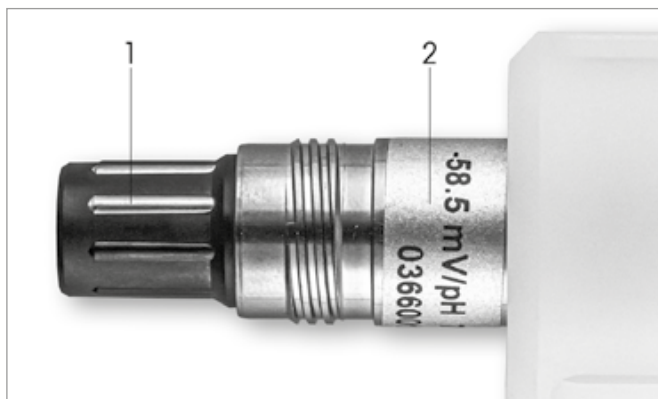

Fig. 1: InSUS pH sensor (example)
3.5 Locate the Slope and Zero Point (Offset) values found on the sensor label (Fig. 1) or on the sensor's Quality Certificate and use these for data entry. Press the slope value and use the keys to edit the value in mV/pH.